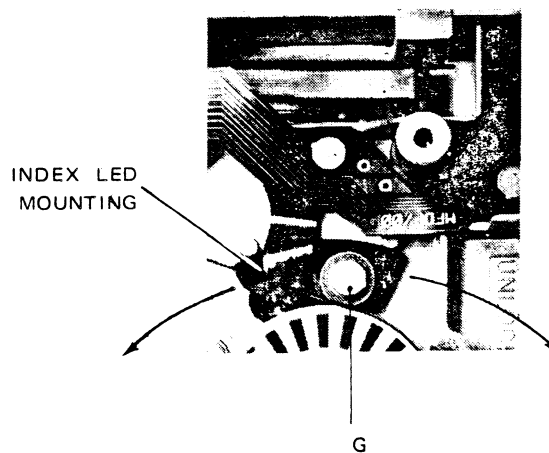

Figure 7.4 INDEX TO BURST ADJUSTMENT
7.2.6 INDEX TO BURST ADJUSTMENT (FIGURES 7.4 AND 7.5)
- e) If not, slacken screw 'G' (figure 7.4) and adjust index LED.